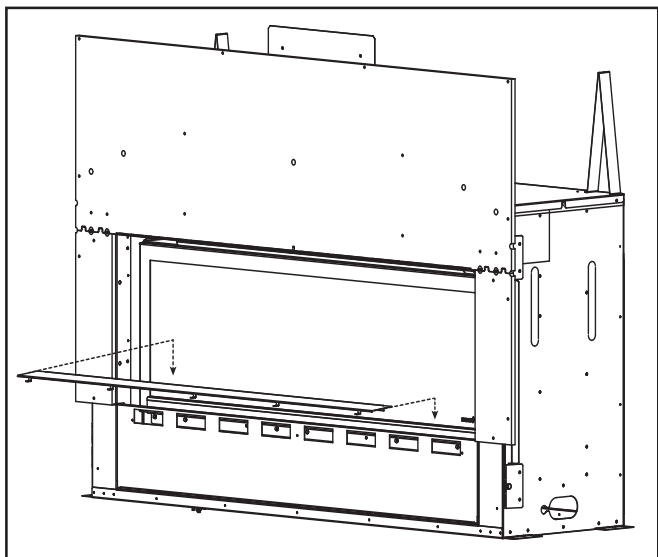

Figure 11.16 Install Bottom Vanity Panel
10. Install bottom vanity panel between glass and glass frame. See Figure 11.16.